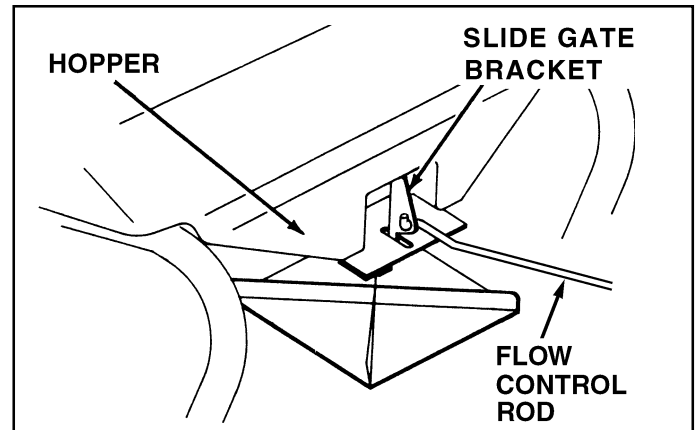

FIGURE 9
21. Hook the double bent end of the flow control rod through the hole in the slide gate bracket located near the bottom of the hopper. See figure 9.